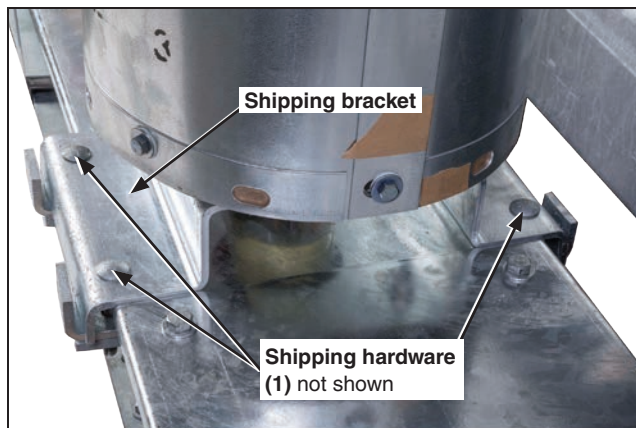

Figure 12. Shipping clamps for the Series 2000 Circuit-Switcher interrupters.
- STEP 2.** Remove the four $\frac{1}{2}$ -13-inch stainless steel hex nuts and Belleville washers used to attach the interrupter shipping bracket to the threaded studs on the interrupter. See Figure 12. Discard the shipping bracket but retain the Belleville washers and nuts for re-use in Step 4(f) on page 20.